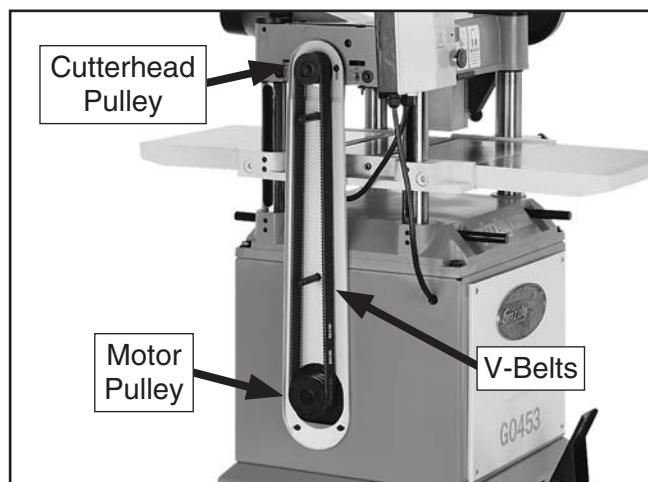

Figure 38. Belt cover removed to expose the V-belts and pulleys.
2. Remove the V-belt cover from the left side of the machine to expose the belts, as shown in **Figure 38**.